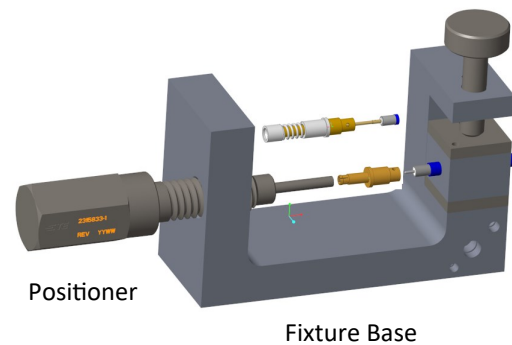

Figure 5: Soldering Fixture.
- A fixture as shown in figure 5 can assist with the soldering process.